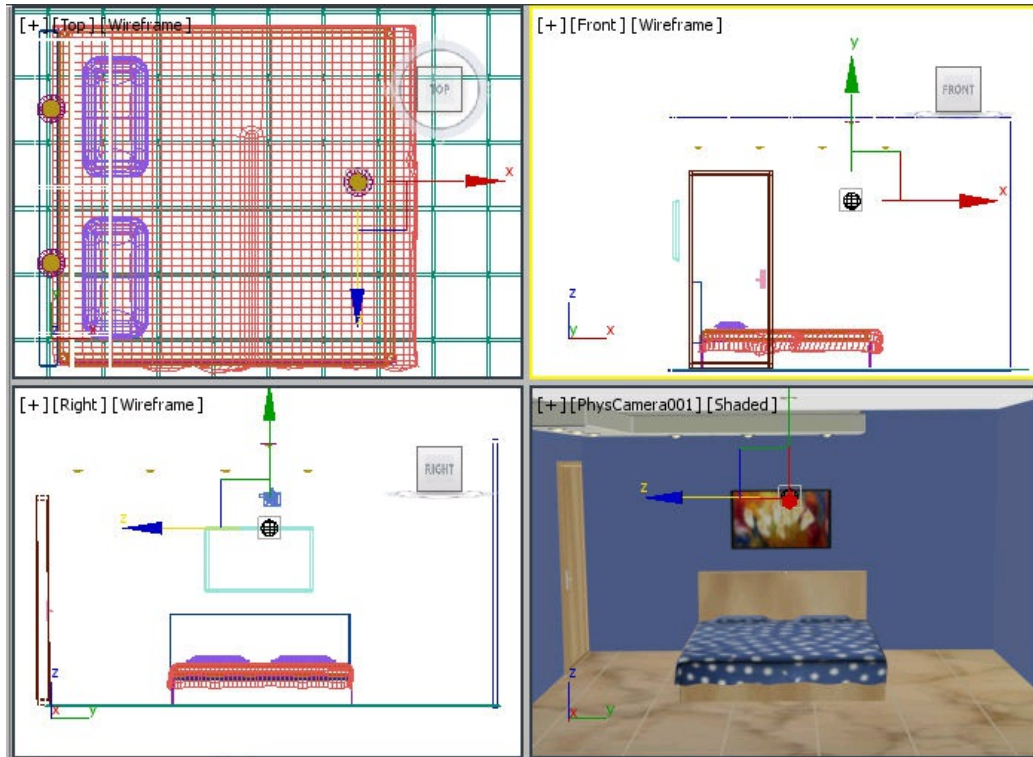

Figure 13-72 The *rooflight1* aligned in the viewports
6. Choose the **Select and Move** tool and align *rooflight1* in the viewports, as shown in Figure 13-72.